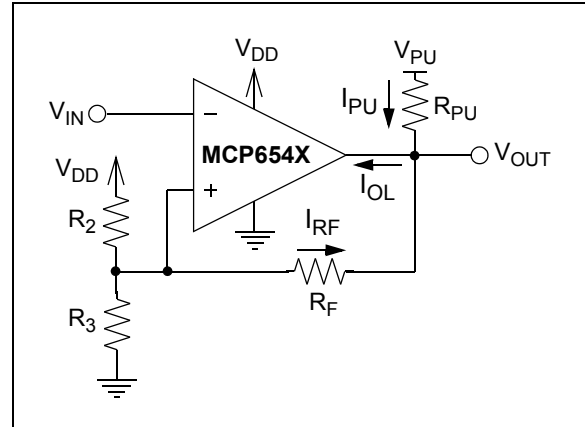
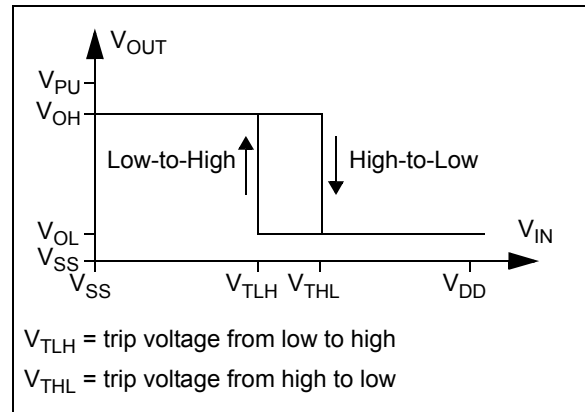
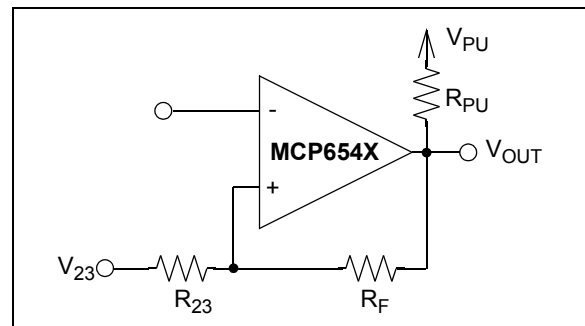

FIGURE 4-4: Inverting Circuit with Hysteresis.
FIGURE 4-5: Hysteresis diagram for the inverting circuit.
FIGURE 4-6: Thevenin Equivalent Circuit.
Figure 4-4 shows an inverting circuit for a single-supply application using three resistors, besides the pull-up resistor. The resulting hysteresis diagram is shown in Figure 4-5.
In order to determine the trip voltages (V_{TTL} and V_{TLH}) for the circuit shown in Figure 4-4, R_2 and R_3 can be simplified to the Thevenin equivalent circuit with respect to V_{DD} , as shown in Figure 4-6.
Figure 2-21 and Figure 2-24 can be used to determine typical values for V_{OL} . This voltage is dependent on the output current I_{OL} as shown in Figure 4-4. This current can be determined using the equation below:
1. Inverting Configuration (Figures 4-4 and 4-7):